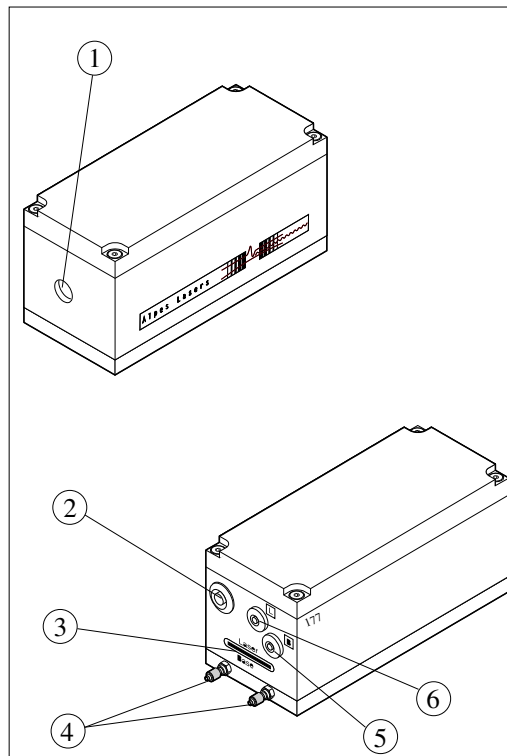
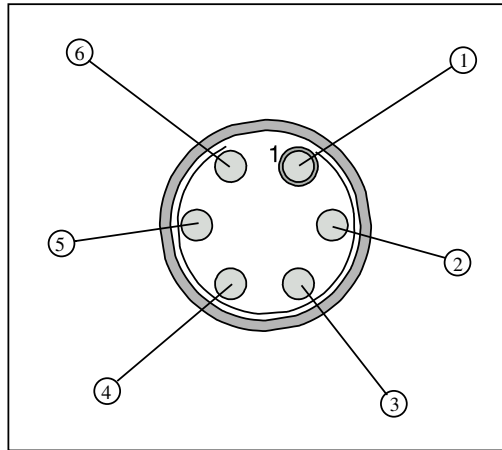

Figure 5.14.: LLH housing description.
Figure 5.15.: LLH housing connector (2).
The LLH front and rear panels are shown in figure 5.14. The different parts are described below:
The Peltier connector (2) shown in figure 5.14 is zoomed in figure 5.15. It carries 6 pins, described in table 5.6. Pin 1 is circled, and a half-moon engraving runs from pin
The TC-3 controls the temperature of the LLH with a Peltier junction and monitors the temperature with a PT100 through the C-TC-3-LLH cable, shown in figure 5.18. The Peltier connector is identical to the connector shown in figure 5.15. The controller connector is a DB-15 connector described in table 5.4.